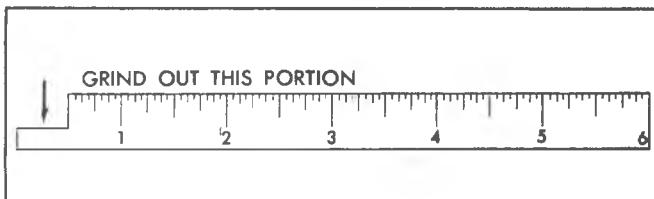

Fig. 6A4-24--Cutaway Scale
5. Check the installed height of the valve springs, using a narrow thin scale. A cutaway scale will help (fig. 6A4-24). Measure from the top of the shim or the spring seat to the top of the oil shedder (fig. 6A4-25). If this is found to exceed the specified height, install a valve spring seat shim approximately $1/16"$ (1.6mm) thick. At no time should the spring be shimmed to give an installed height under the minimum specified.